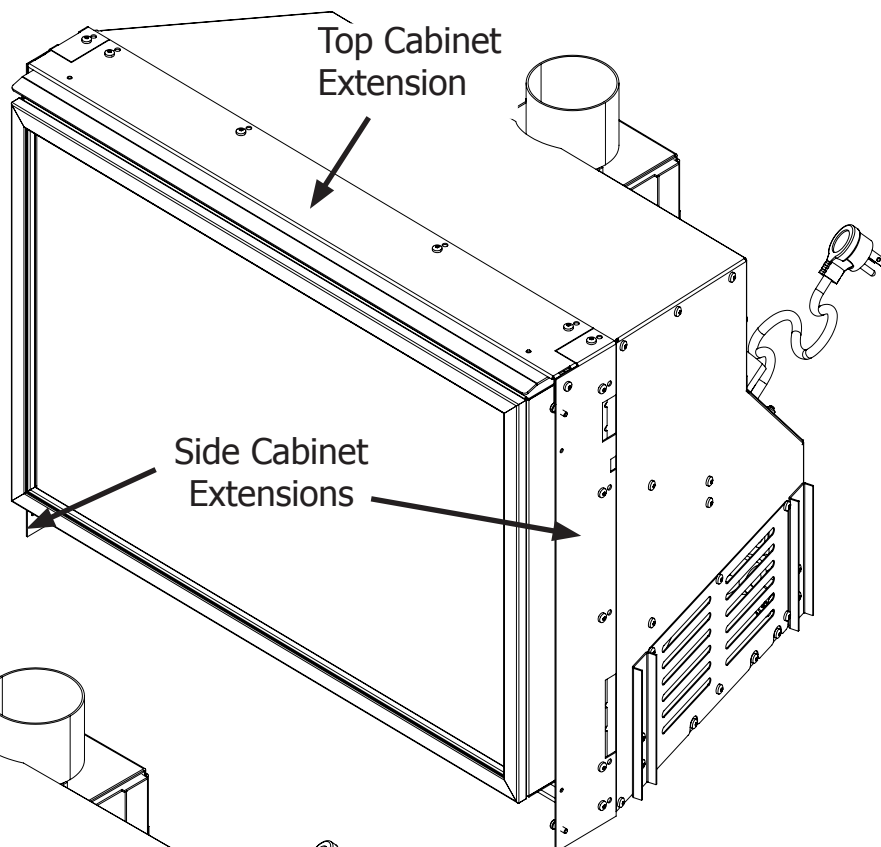

Figure 40: Stove as Shipped
1. Using a T20 screwdriver, remove the four (4) screws that secure the Top Extension to the Cabinet (see Figure 40).